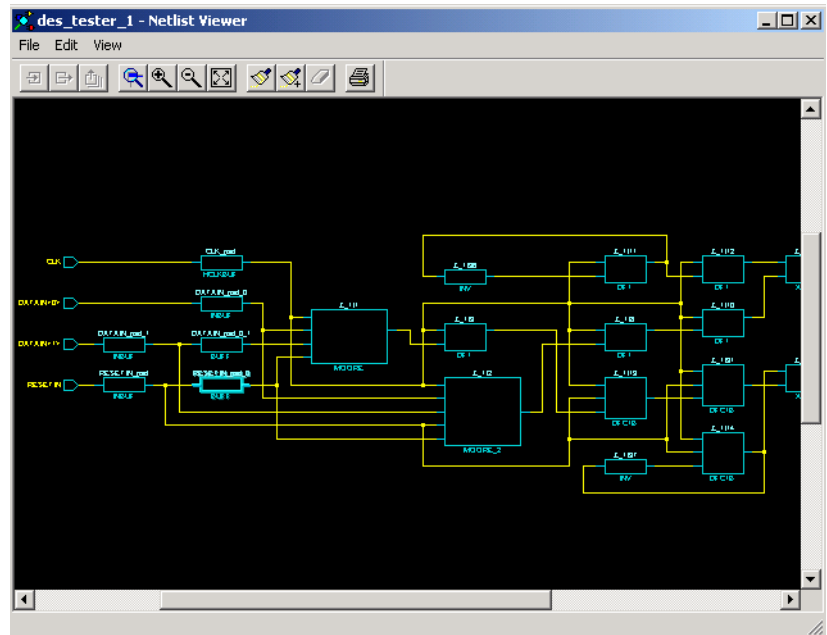

Figure 3-9. Netlist Viewer Starts
- 1. Start Netlist Viewer.** Click *Netlist Viewer* in the Design Flow window. The Netlist Viewer starts and displays your netlist, as shown in Figure 3-9.